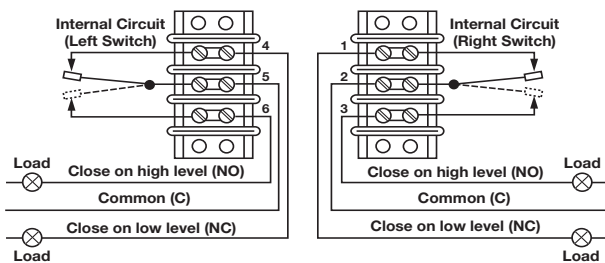

Figure 3
Figure 3 shows a typical piping installation of a MAGNETROL B73 and Series 75 control to a pressure vessel. Level decals on control identify the actuation levels for a unit with a single switch at minimum specific gravity. See **Section 5.2, Physical** on page 16 for the actuation levels.
5. The switch terminals are located next to the conduit outlet to facilitate wiring. Bring supply wires through conduit outlet. Route extra wire around enclosing tube under the baffle plate, and connect them to the proper terminals. Refer to the wiring diagram, **Figure 3**, or your switch bulletin for this information.